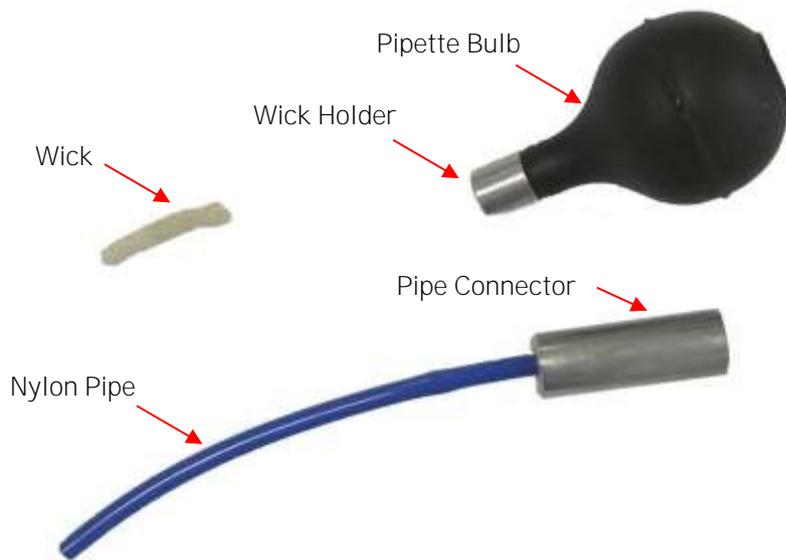

Figure 77
- a. Cut a length of wick approximately 30 mm long. Assemble the smoke tester by pushing the wick into the wick holder fitted with the pipette bulb. Press the nylon pipe into the pipe connector (refer to Figure 77).